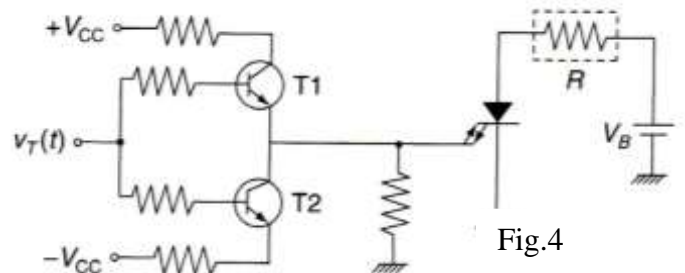

Fig.4
- b) How much current must be drawn through T2 to turn the GTO in Fig.4 below off if the following specifications apply to the GTO: $\beta_{OFF}=7$, $R_{on} = 2.5\text{ m}\Omega$, $V_B = 75$, and $R_L = 2\ \Omega$? What average power is dissipated by the GTO for a 50% duty cycle?